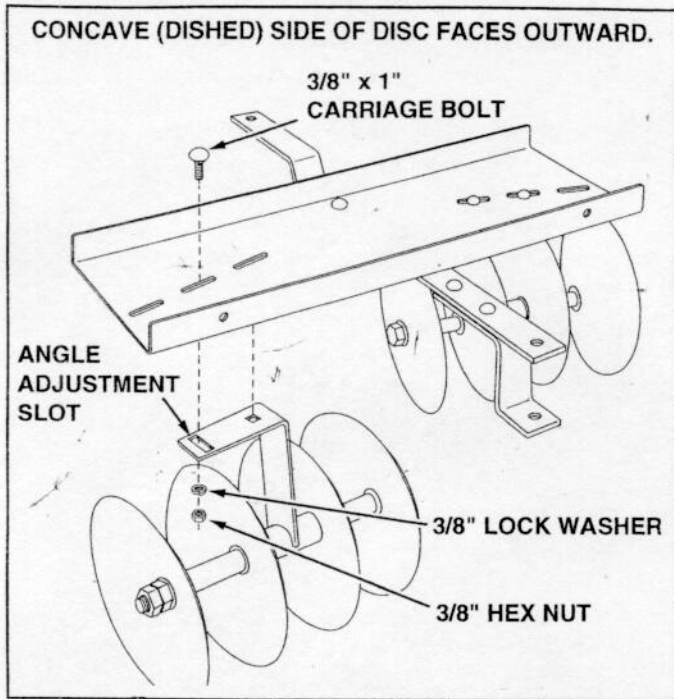

FIGURE 4
5. Assemble the disc assemblies to the tray using four  $3/8"$  x  $1"$  carriage bolts,  $3/8"$  lock washers and  $3/8"$  hex nuts. Swivel the disc assemblies so that the carriage bolt is centered in the angle adjustment slot. **Tighten.** This places the discs at the standard 15 degree angle. See figures 4 and 5.
The front cultivator should be assembled as shown in figure 4. The rear cultivator should be assembled using the following instructions. Note that the position of the tray and drawbar are the reverse of the front cultivator.